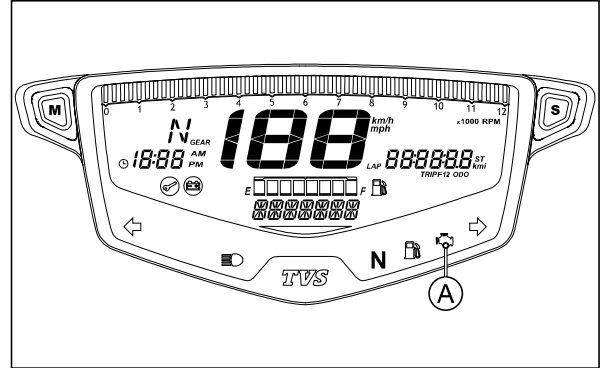

Fig. 7.1
- If the malfunction indicator (A) in the speedometer assembly of **TVS Apache RTR 160 Fi 4V** starts blinking after completion of speedometer's self check cycle, indicates that there is a malfunction in the EFI system of the vehicle. (Fig. 7.1)